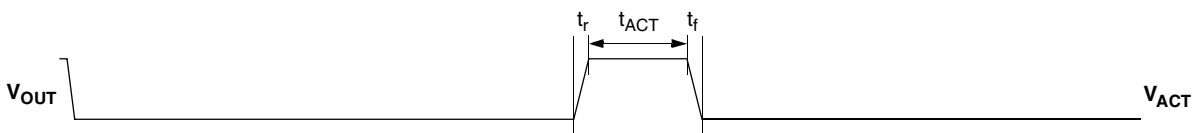

Fig. 5-5: Activate pulse
- Activate a sensor (see Fig. 5-5 on page 28)